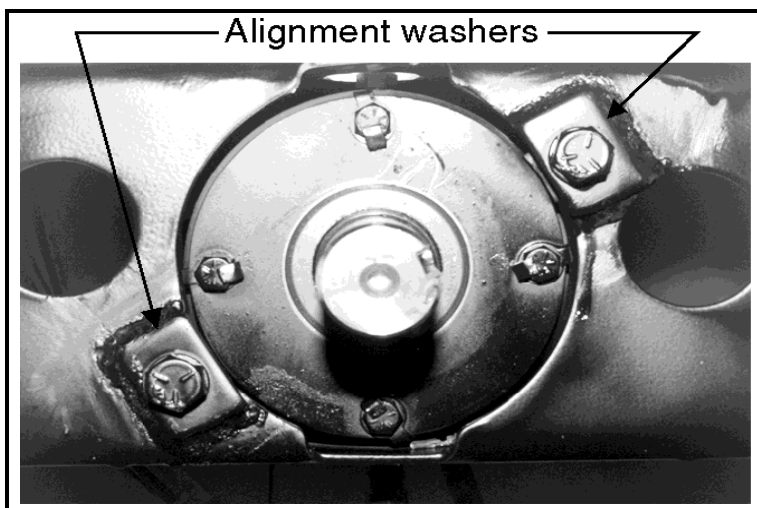

FIGURE 3 (MSSM0708BE)
3. Remove the bearing housing from the frame. Grind off the alignment washers as shown in FIGURE 3 and discard old alignment washers.